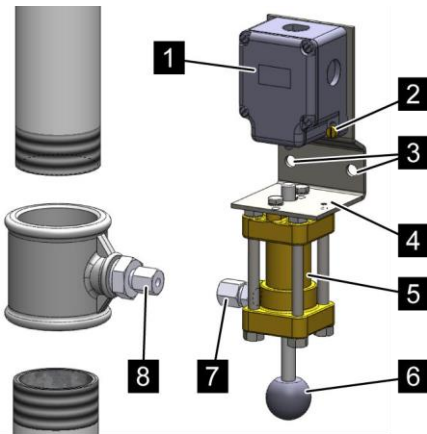

Fig. 115: Mounting
1. ➤ Screw the cylinder (Fig. 115/5) onto the holder (Fig. 115/4) with the two provided screws.
2. ➤ Screw the limit switches (Fig. 115/1) on the holder with the two provided M5 x 25 cylinder screws, washers and hex nuts (Fig. 115/2).
3. ➤ Fasten the holder to the bearing structural elements with the provided screws via the two fastening bores (Fig. 115/3).
4. ➤ Connect the compressed air line from the pipeline (Fig. 115/8) on the compressed air connection (Fig. 115/7) and fasten with threaded union.
6. ➤ Press the pushbutton (Fig. 115/6) on the limit switch and check the functionality on the fire extinguishing detection system.